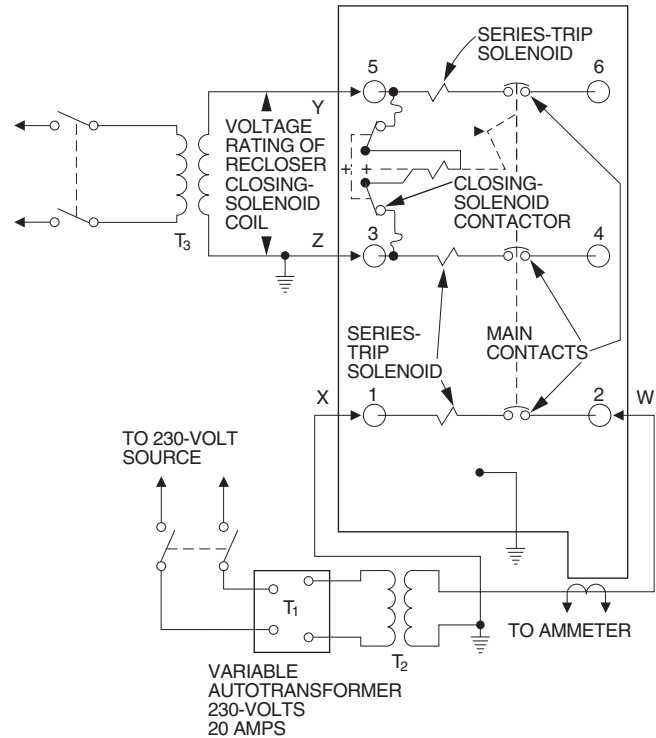

Figure 12. Suggested test circuit for reclosers with phase-to-phase closing solenoid
The following equipment (see Figure 12) is required for the recommended test setup:
The minimum-trip current of each phase can be checked by closing the recloser manually with the closing tool and tripping electrically with the low-voltage ac source. Assemble and connect the low-voltage test circuit portion of the test set-up shown in Figure 12 and proceed as follows:
1. Assemble and connect the high-voltage test circuit portion of the test setup (Figure 12).
1. Assemble and connect the test circuit (Figure 12).